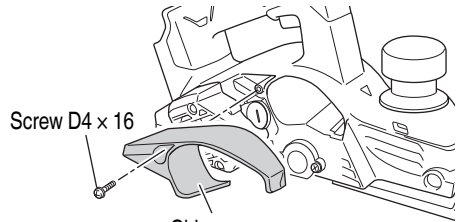

Fig. 38
- (1) Remove the screw D4 × 16 in the chip cover and remove the chip cover as shown in Fig. 38.